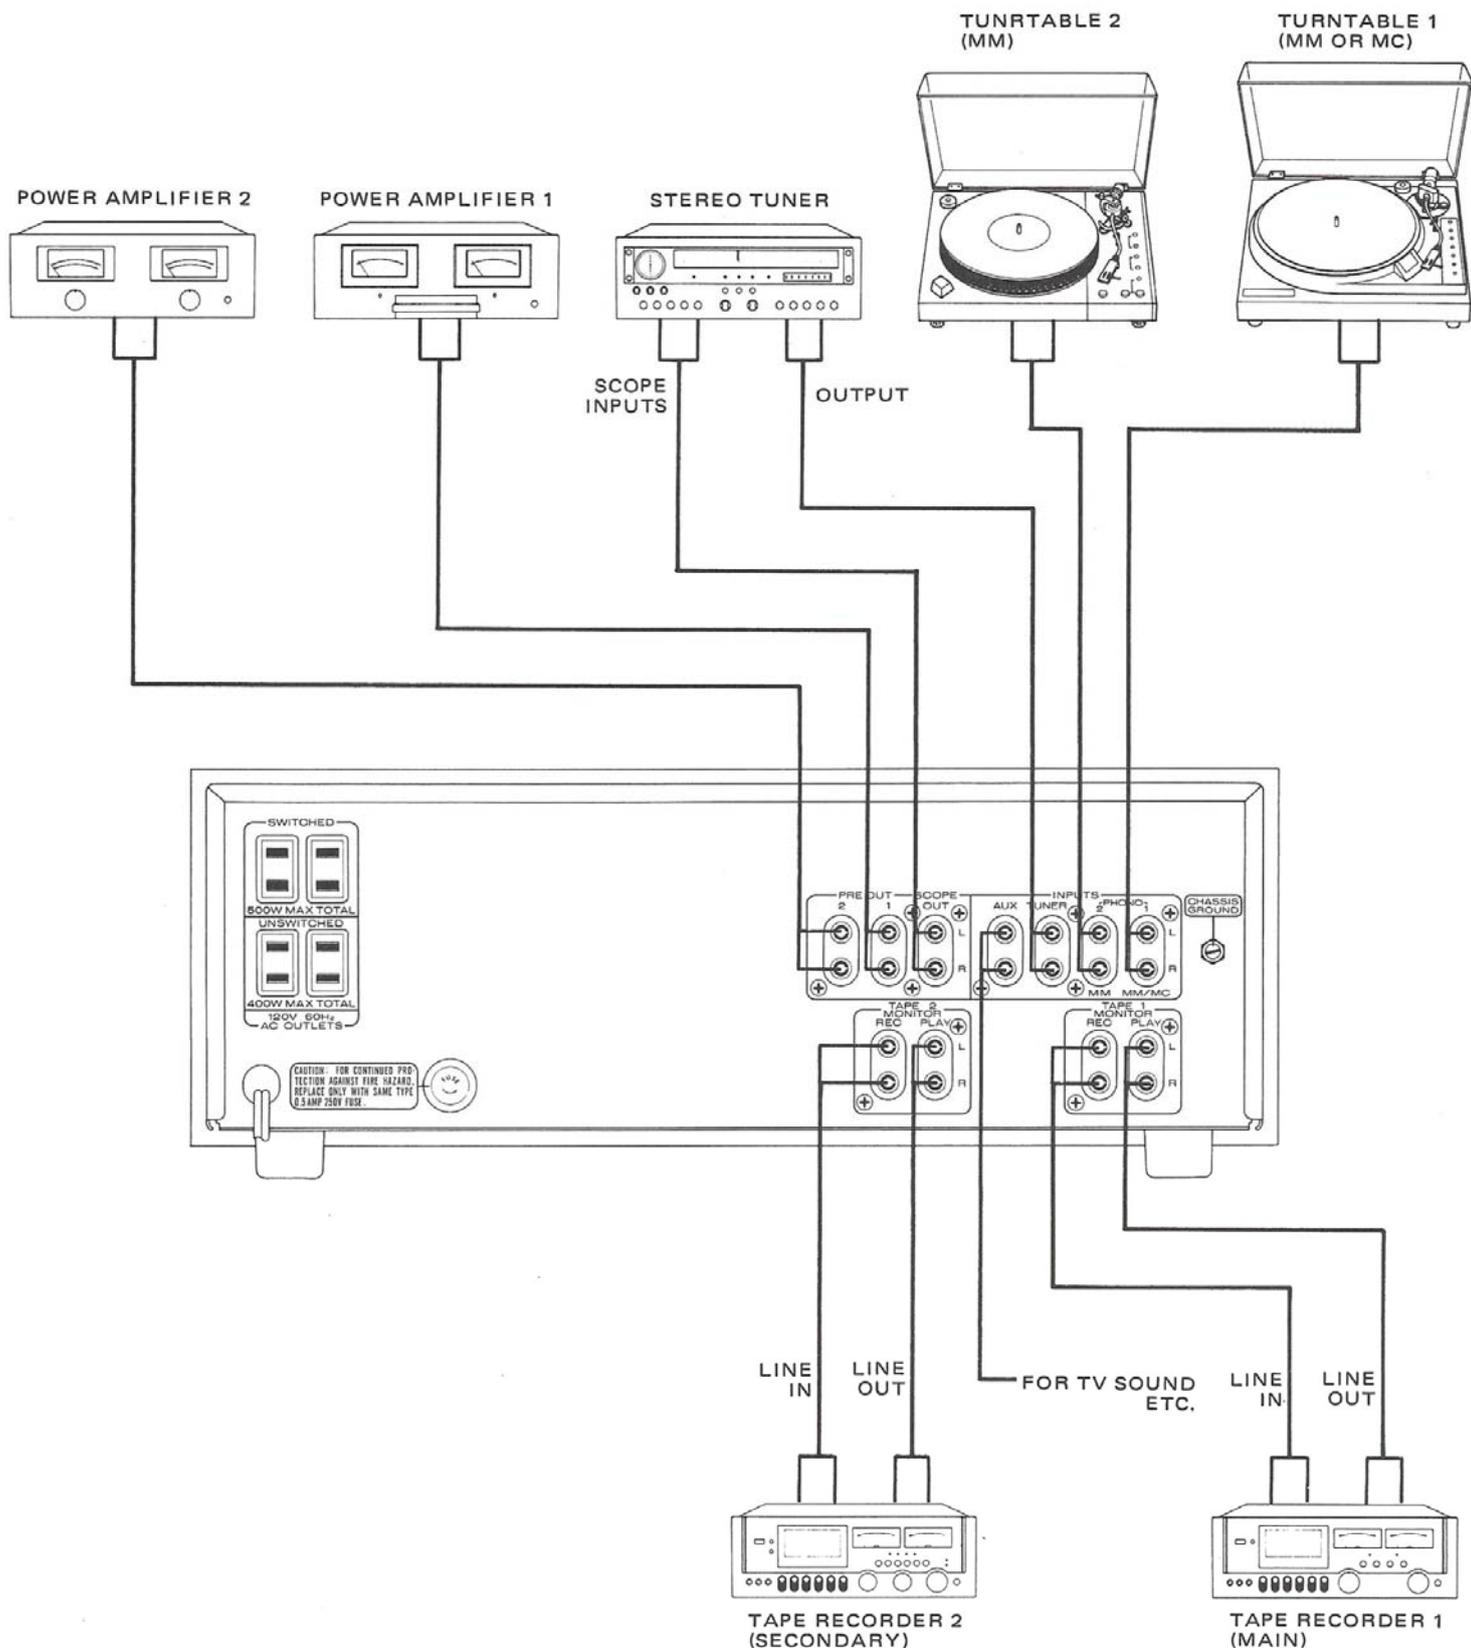

Figure 2. Connection Diagram
The **PHONO 1** jack can be used with either a Moving Magnet (MM) or a Moving Coil (MC) cartridge. The **PHONO 2** jack is dedicated to a MM type cartridge. Connect the turntables as shown in Figure 2.
The **TUNER** input jacks are used for connecting the line output of a stereo or monaural AM or FM tuner to the Model Sc 7. Connect the tuner as shown in Figure 2.
The Model Sc 7 can accommodate two tape recorders. The terms **PLAY** and **REC** refer to the input and output of the Model Sc 7. Therefore, the **PLAY** jacks on the Model Sc 7 accept signals from the line outputs of each tape recorder; the **REC** jacks feed signal to the tape recorder's line inputs (see Figure 2).